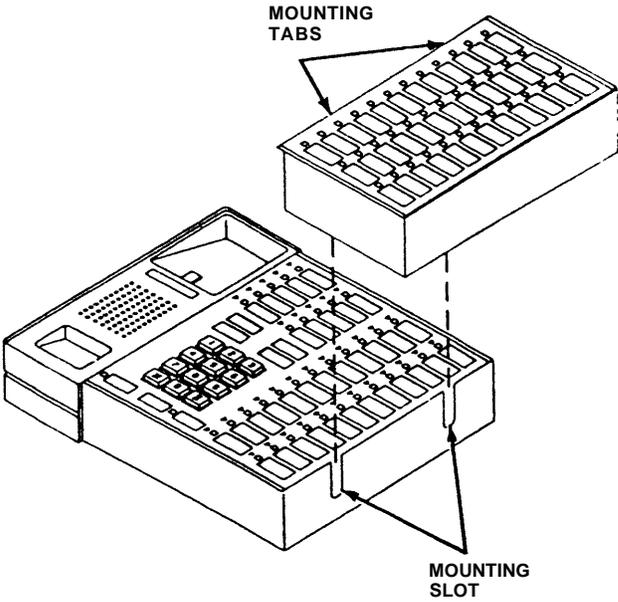

Figure 4
9. Align the mounting tabs on left side of the Attendant Intercom Selector with slots on right side of voice terminal base and press down into place (Figure 4).